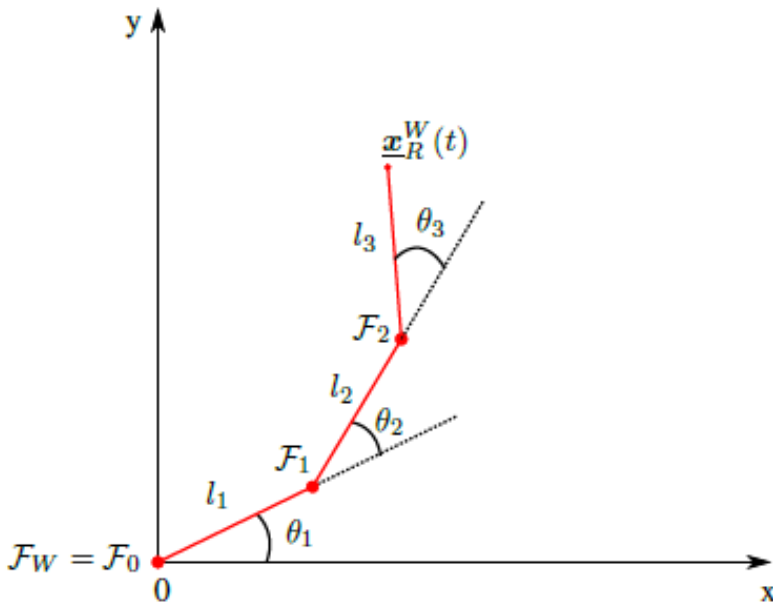

Fig. 1. Three degree-of-freedom planar robot.
1. Let the robot R be a 3-DoF planar robot, as drawn in Fig.1.